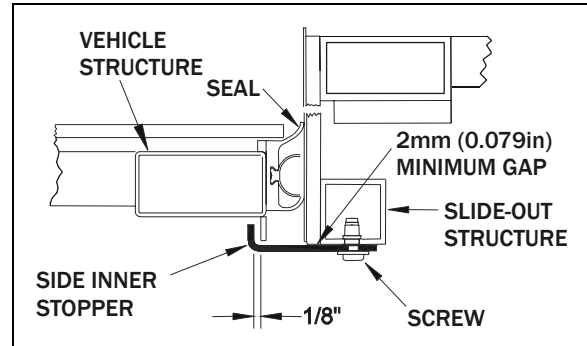

FIGURE 3 : SIDE INNER STOPPER ADJUSTMENT
- Adjust the side inner stoppers at 1/8" from the vehicle side structure keys, and tighten the screws. Make sure there is a minimum gap of 2mm (0.079") between the side inner stopper and the side window pane (figure 3). Use shim as required.